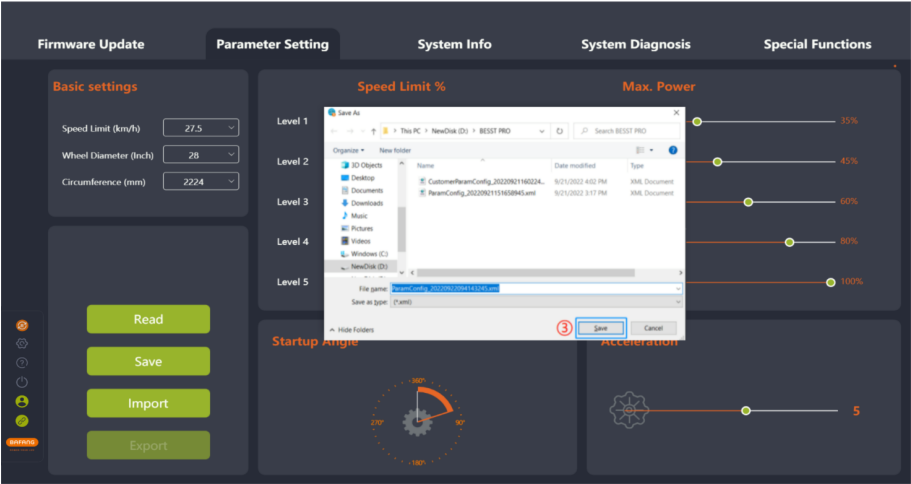

Fig 5-10 Export
2. Export the configuration information on the parameter interface and the controller hardware version (for importing and verification) to a file and save it locally. The path can be chosen independently and the file name can be edited, e.g. ParamConfig_20220922094143245.xml (Figure 5-10).